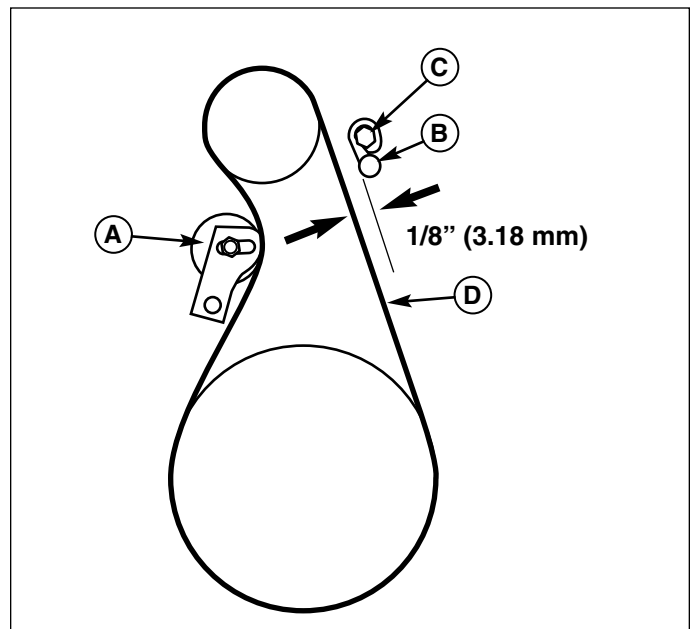

Figure 27. Belt Guide
3. Measure the distance between the belt guide (B, Figure 27) and the belt (D). The distance should be 1/8 inch (3.18 mm).
4. If adjustment is necessary, loosen belt guide cap-screw (C). Move belt guide (B) to correct position. Tighten capscrew (C).